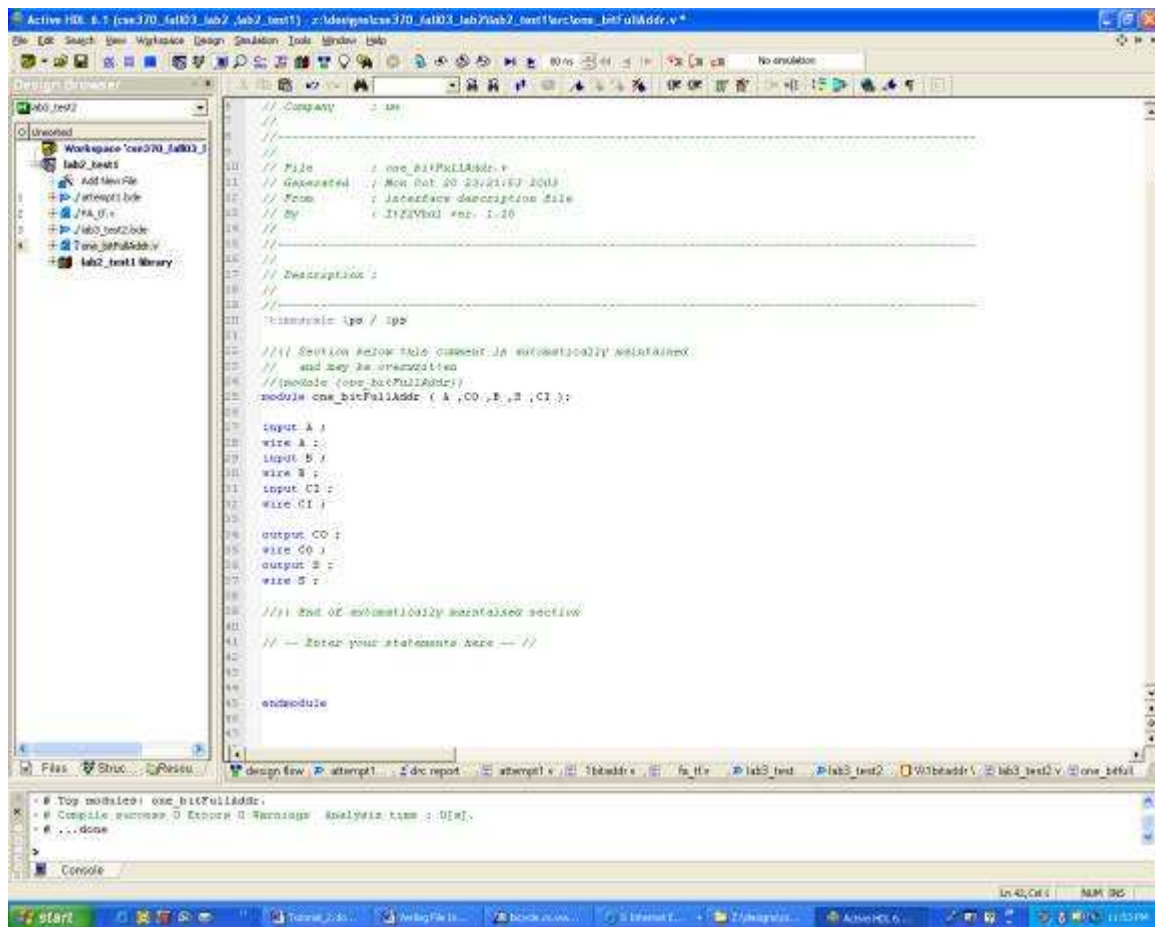

Figure 6
- Aldec will open a Verilog file with the module, inputs, outputs, and wires already declared (see Figure 6). Locate the section of the file that contains the comment: " // -- Enter your statements here -- //". In this area you will insert the assign statements that define CO and S in terms of a Boolean function. Refer to the Verilog introduction above.